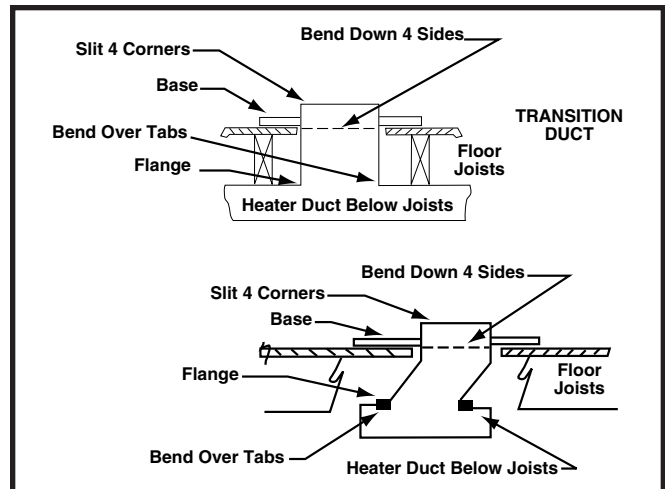

Figure 5. Transition and Offset Ducts
5. Drop transition or offset feeder duct (Figure 5) upside down through the floor opening and center the top of the feeder duct in 14-1/8" x 14-1/8" floor opening. Using the feeder duct as a guide, mark and cut a 12" x 12" opening in the supply duct.
5. Set the universal base in place. Drop transition or offset feeder duct (Figure 5) upside down through the floor opening and center the top of the feeder duct in 14-1/8” x 14-1/8” floor opening.